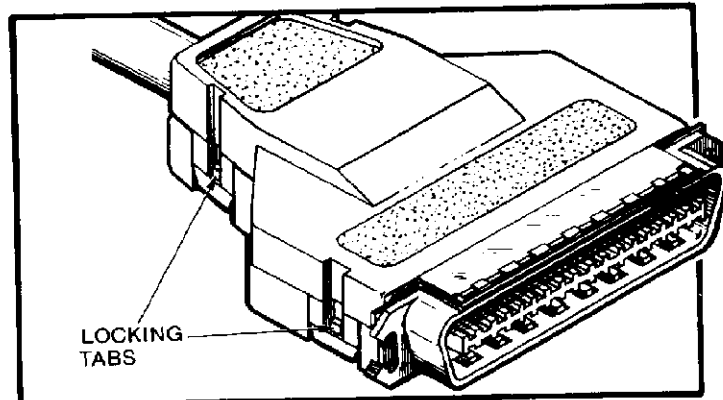

Fig. 9
4. Place groove side of cover over assembly and press until locking tabs engage (see Figure 9).